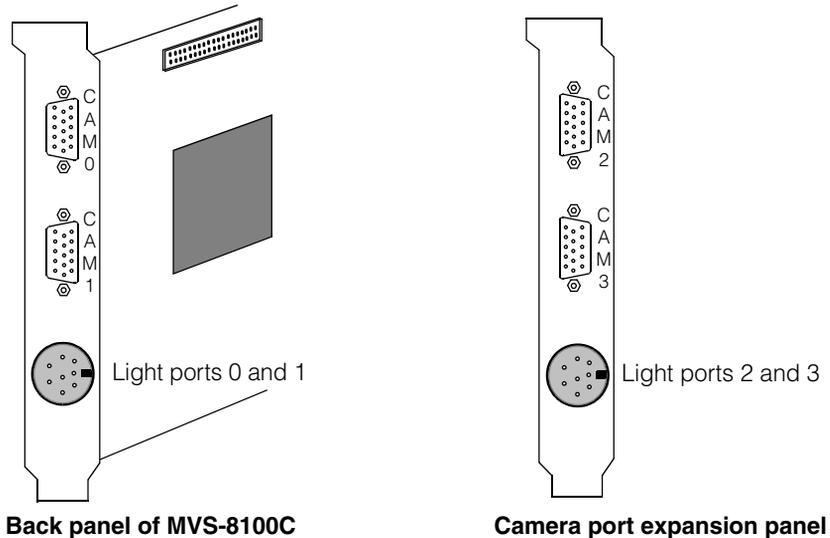

Figure 4. Port locations on MVS-8100C back panel and expansion panel
8. Connect cameras to the MVS-8100C using the appropriate Cognex camera cable as listed in Table 21 on page 50. Figure 4 shows the numbering of the camera connectors on the MVS-8100C's back panel and on the camera port expansion panel. See *Installing Cameras* on page 14 for more on connecting cameras.